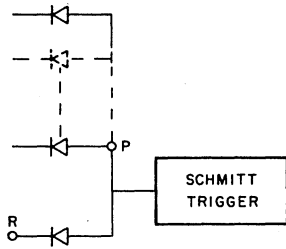

Figure 1. NANDed Input
**Direct:** — Pin P provides a bypass of the diode connected at pin R. This node input can be used with R001 diodes to form a NAnDED input to the W501 as shown in Fig. 1 below. In addition, this input can be used to obtain an integrated input when many contacts or switches are connected as shown in Fig. 2 below. This latter scheme gives an output rise when contacts close.